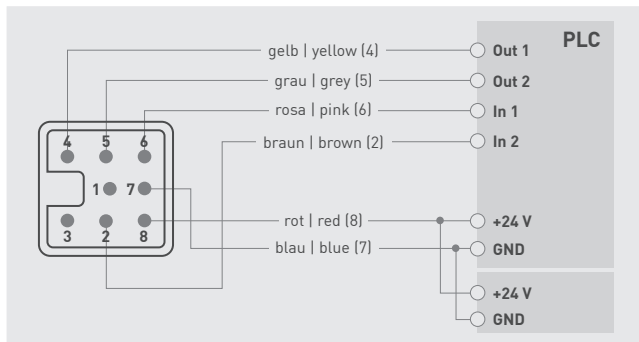

Fig. 10-4 Circuit diagram for direct connection to a PLC
- Connection to terminal "GND" is imperative for direct connection to a PLC (Fig. 10-4)!